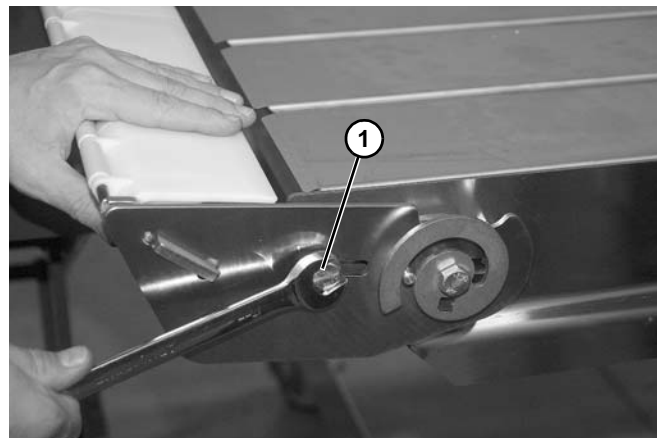

Figure 139
- Loosen headplate screw (**Figure 139, item 1**) on each side.